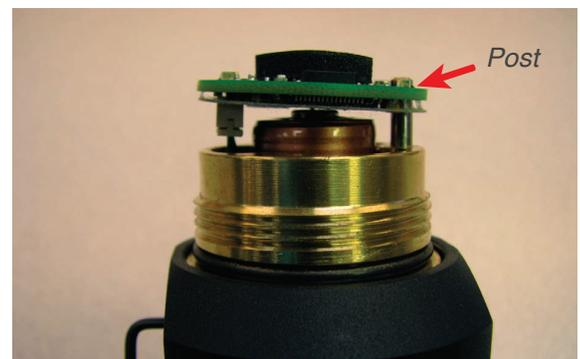

Figure 4: Retaining Post
10. Gently remove the circuit board from the retaining post. See Figure 4.
12. Align the post and post hole of the circuit board and press the board over the post until it snaps into place below the gasket o-ring. Refer to Figure 4.